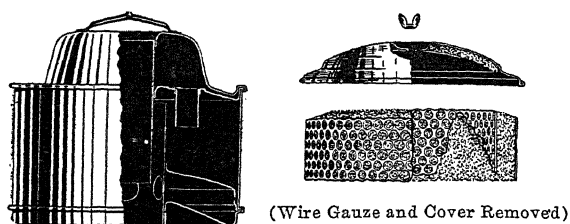
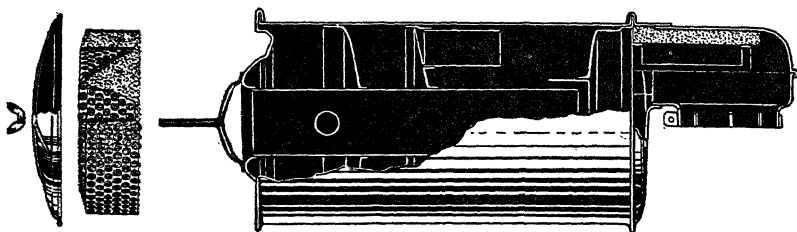
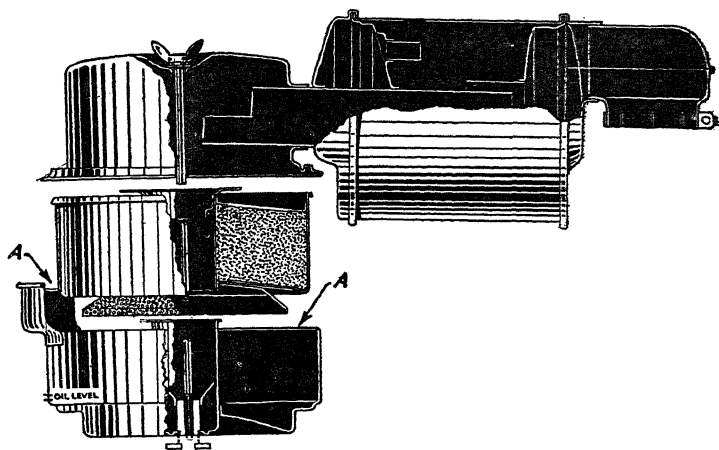

Fig. 12. Buick Series 40 Air Cleaner
Fig. 13. Buick Series 60-80-90 Air Cleaner (Regular)
Fig. 14. Buick Heavy-Duty Air Cleaner
**Buick Air Cleaners.** Fig. 12 illustrates the 1937, Series 40, Buick air cleaner. Fig. 13 illustrates the regular air cleaner used
Air enters the copper mesh cleaning element in case of Fig. 12 or Fig. 13. It is divided into small streams and thus exposes dust to the oil-covered surfaces. This dust then clings to the oil, leaving the air clear as it enters the engine. This same copper mesh element also acts as a flame arrester in case of back fire. In order to quiet the air intake, resonance chambers are provided and lined with felt pads. The design is such as to quiet the intake sound. In case of the heavy-duty intake silencer and air cleaner illustrated in Fig. 14, the air and dust enters at A and passes down into the lower chambers through a narrow passage, which causes it to attain a high velocity and as it strikes the oil bath at the bottom of the cleaner, certain of the heavier particles of dust are thrown